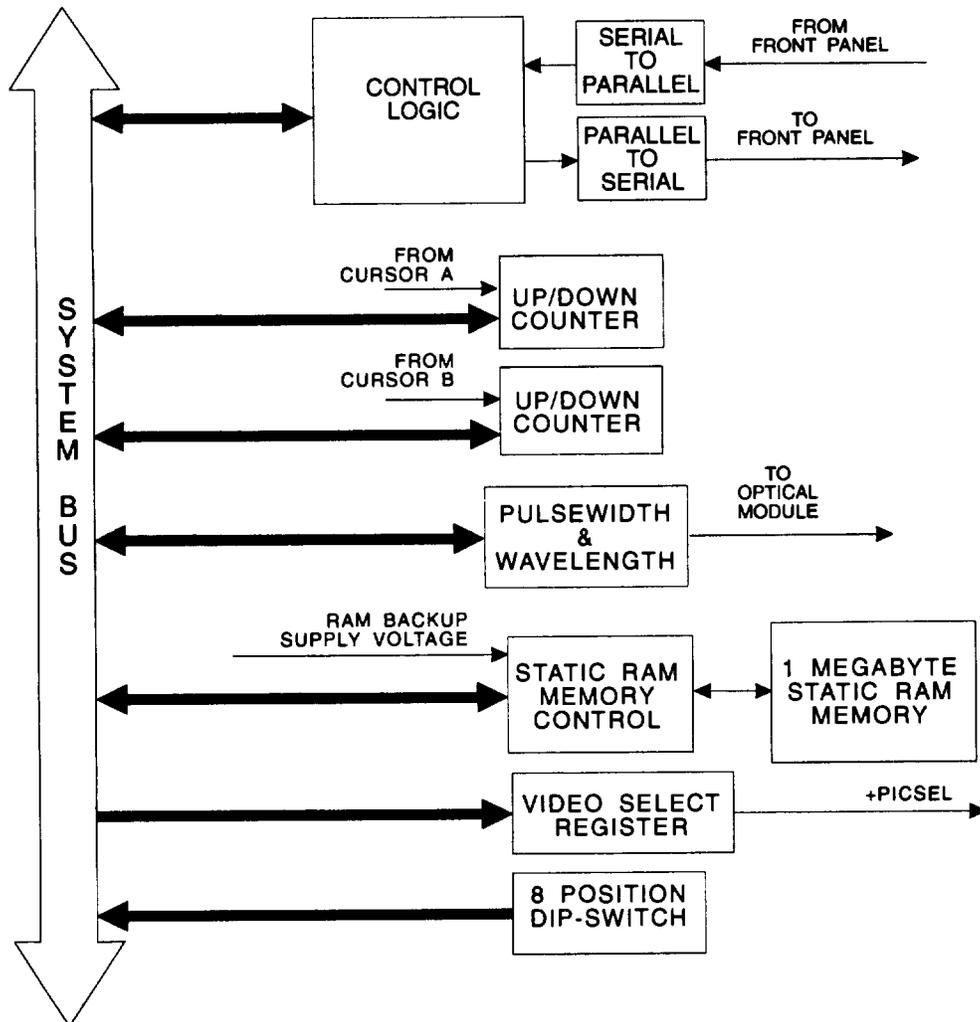

Figure 1-5. 1A2A5 SIO CCA Functional Block Diagram.
- d. **1A2A5 Specialized Input/Output (SIO) CCA.** This CCA (fig. 1-5) provides interface and device control for internal devices, (specifically the front panel), as well as up to 1 Megabyte of non-volatile memory for program and data storage. Other functions include a DIP switch configuration register and Optical Module laser fire condition control.